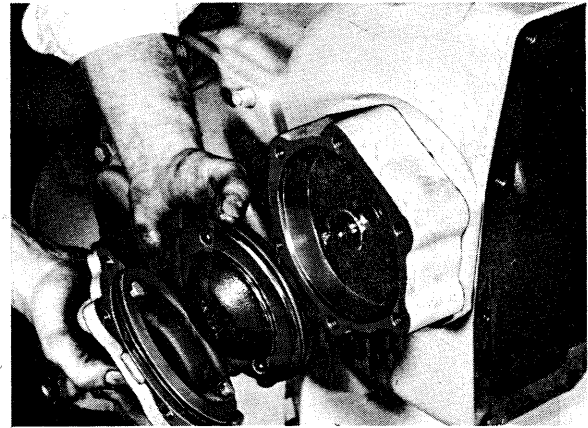

Figure 31
STEP 2. From outside (ring gear cover side), drive the ring gear shaft out of ring gear. **NOTE:** Use a brass bar a little longer than the ring gear shaft to hold the ring gear inner taper bearing in place. With pinion moved as explained in Figures 31 thru 36, lower ring gear to the bottom the case as far as it will go.